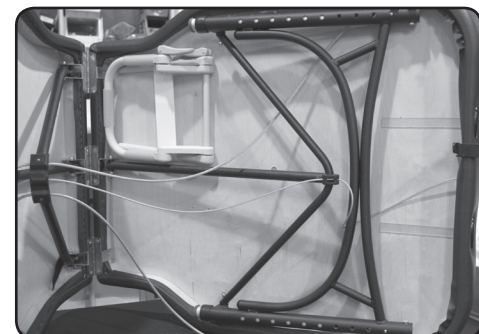

Fig. 5
Advanta (Fig. 5)
- Separate the Face Crescent Pad from the Face Rest. Insert the legs of the Face Rest Platform thru the elastic strip attached to the plywood top of the table. Fold the Platform back on itself and secure the cam locks. (as shown in Fig. 5).